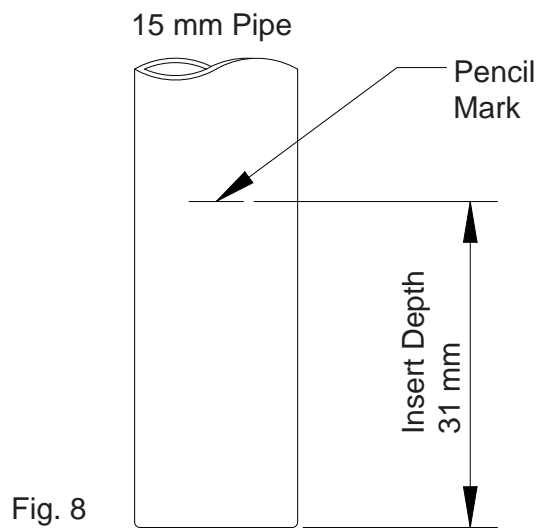

Fig. 8
Ensure the pipe is free from all score marks and deformities in the area of the insertion depth (Fig. 8) and cut the pipe square, removing all burrs and sharp edges to prevent damage to the sealing 'O'-ring.
2. Prior to inserting pipe into fitting, mark the insert depth on the wall of the pipe with a soft pencil at a distance of 31 mm from the end to be inserted (Fig. 8).